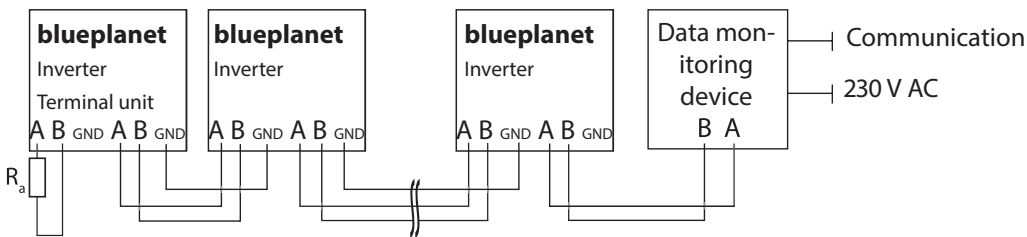

Figure 39: RS485 interface wiring diagram
- GND with GND (see Figure 39 on page 29)